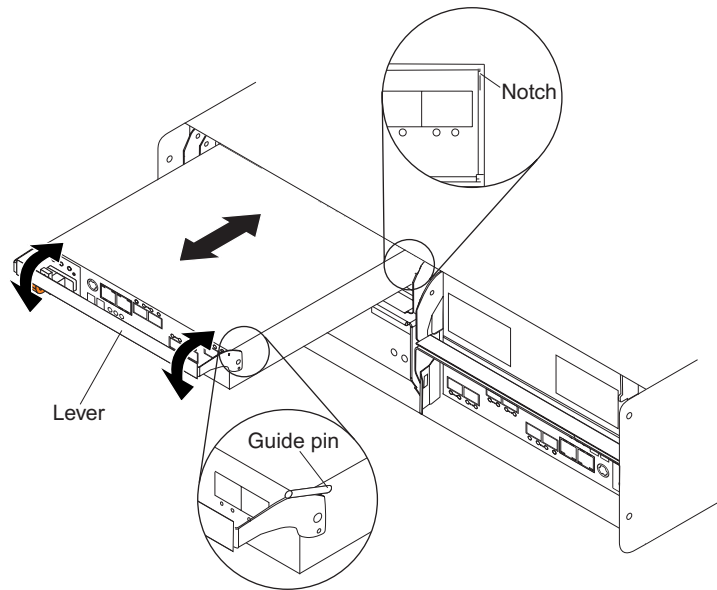

Figure 78. Installing a controller
- a. Slide one controller into the empty slot in the storage subsystem. Be sure that the lever is pulled straight out as you slide the controller in, as shown in Figure 78 on page 128.